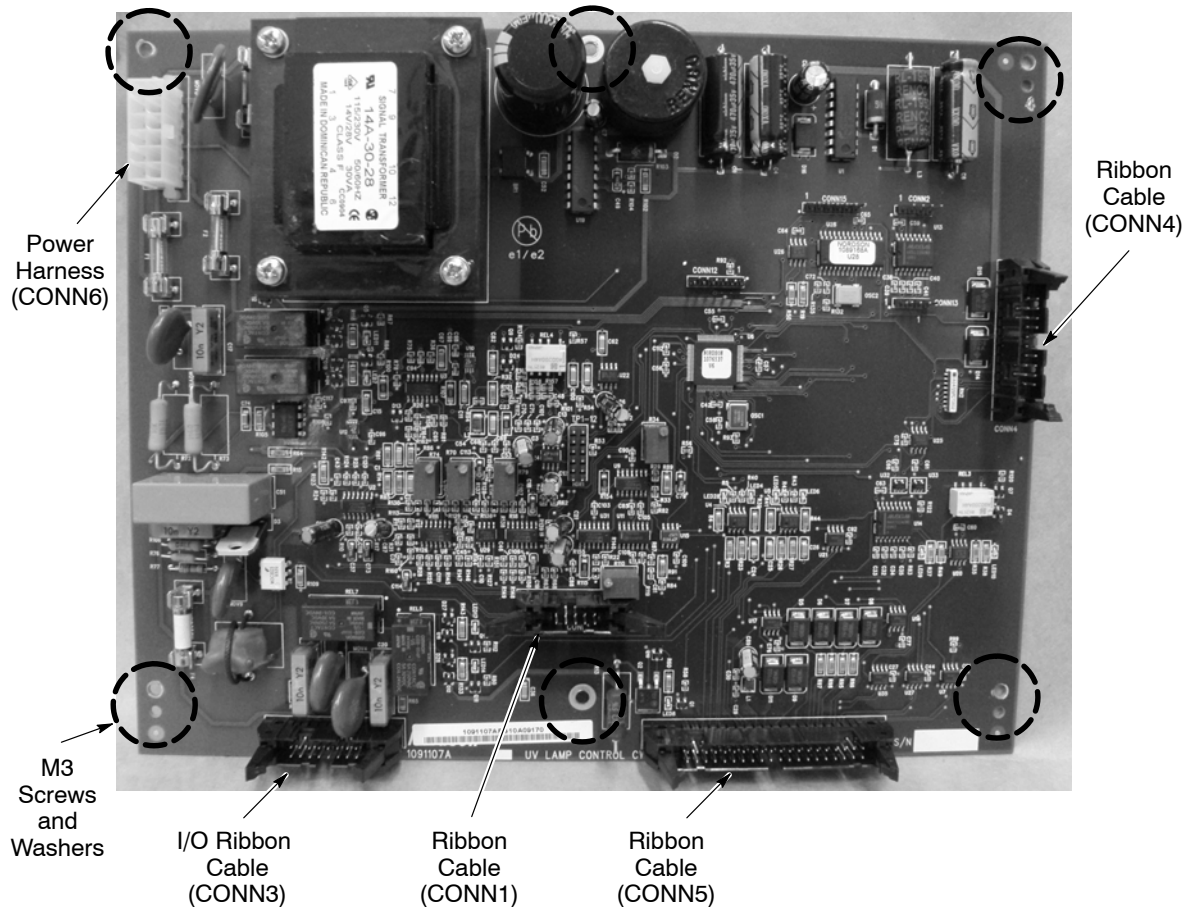

Figure 6 Removing Old Control Board
3. See Figure 6. Remove the interface cables from the connections (CONN1, 3, 4, 5, and 6) on the control board.